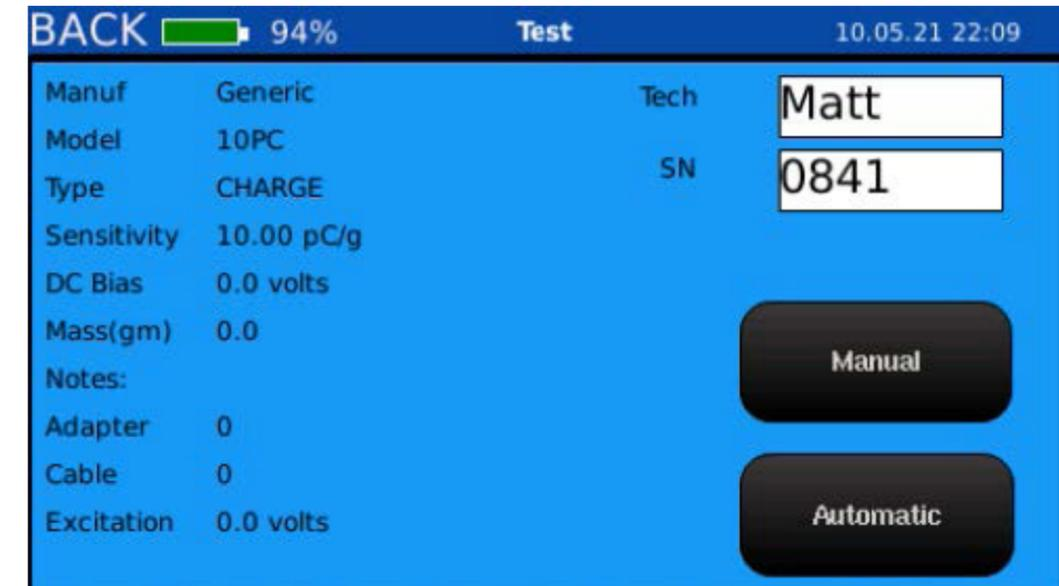

Figure 15. Sensor profile screen
5. When the model and sensitivity are selected, detailed information about the sensor, called the sensor profile screen, is loaded from the on-board library (Figure 15).
8. Tap the **Manual button** or **Automatic button** on the sensor profile screen to select either manual or automatic testing mode (Figure 15). See Testing in Manual Mode on page 28 and Testing in Automatic Mode on page 29 for additional instructions.